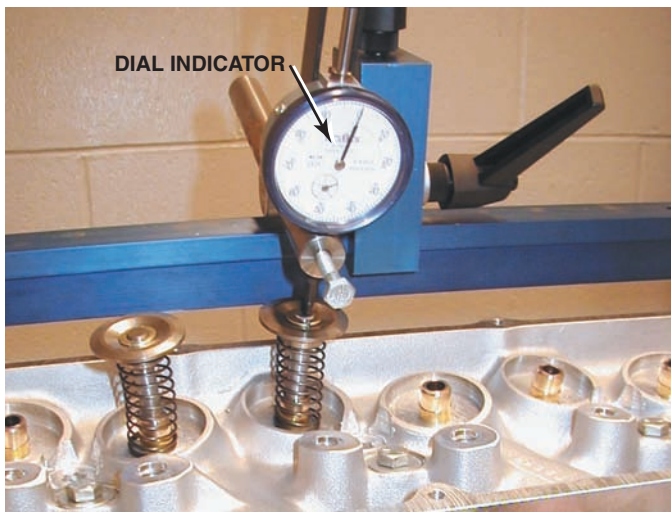

FIGURE 7-19 A dial indicator is used to measure valve lift during flow testing of a high-performance cylinder head.
- **Threaded rod.** Using a threaded rod allows the dial indicator to be securely mounted, such as shown in ● **FIGURE 7-19.**